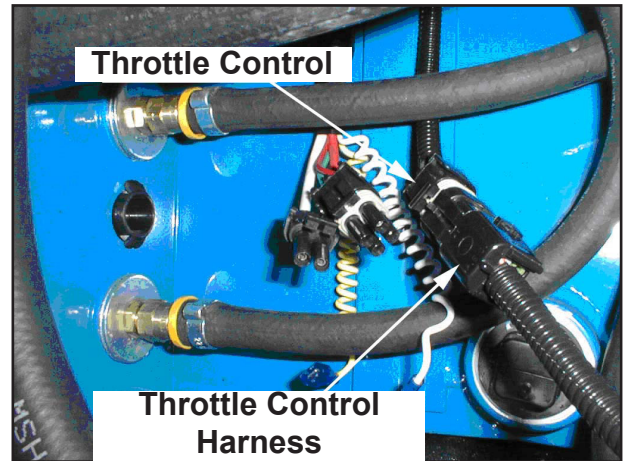

Figure 47. Connect Throttle Control Harness to 4 Pole Plug
5. Locate the 4 pole throttle control plug in the CDS wiring harness and connect the Throttle Control Harness to the plug. Refer to Figure 47.